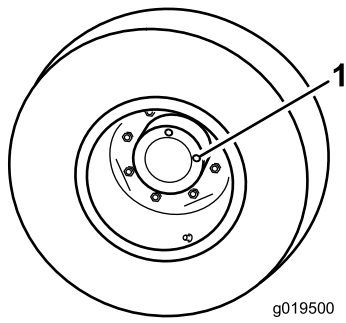

Figure 90
2. Position the wheel so that 1 check plug (Figure 90) is at the 12 o'clock position and the other is at the 3 o'clock position.
1. Check/drain plug (2)
3. Remove the plug at the 3 o'clock position (Figure 90).